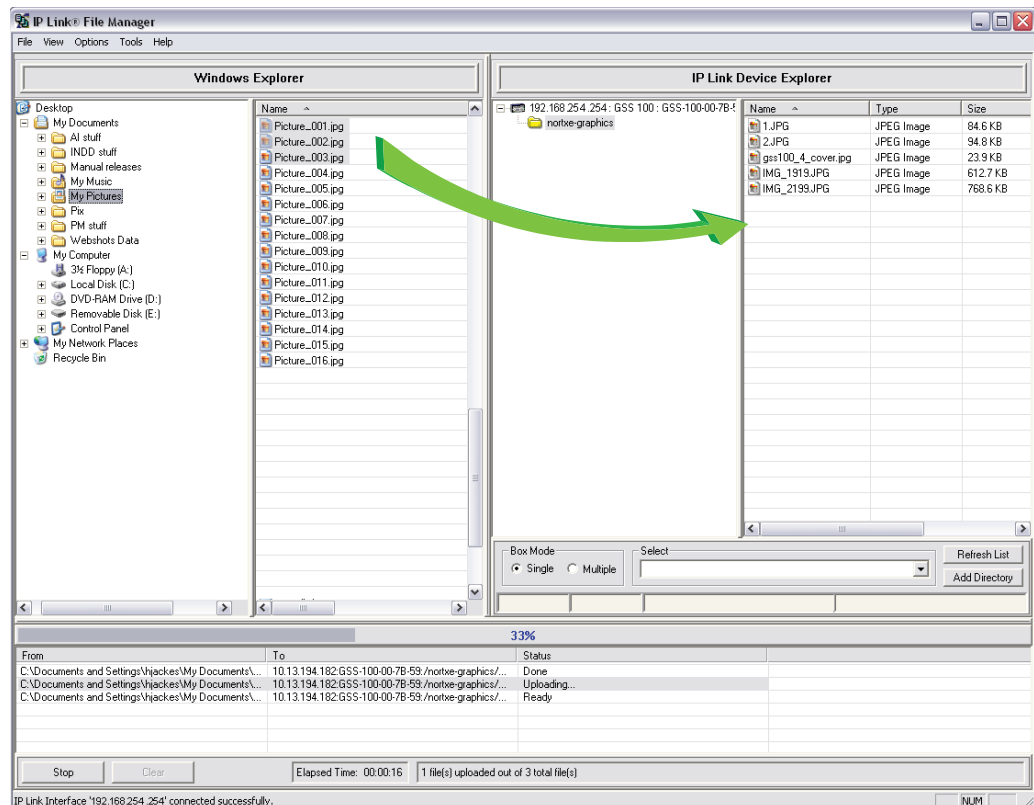

Figure 32. IP Link File Manager Program Window
4. The **IP Link File Manager** program window appears (see figure 32). The window contains two major sections.